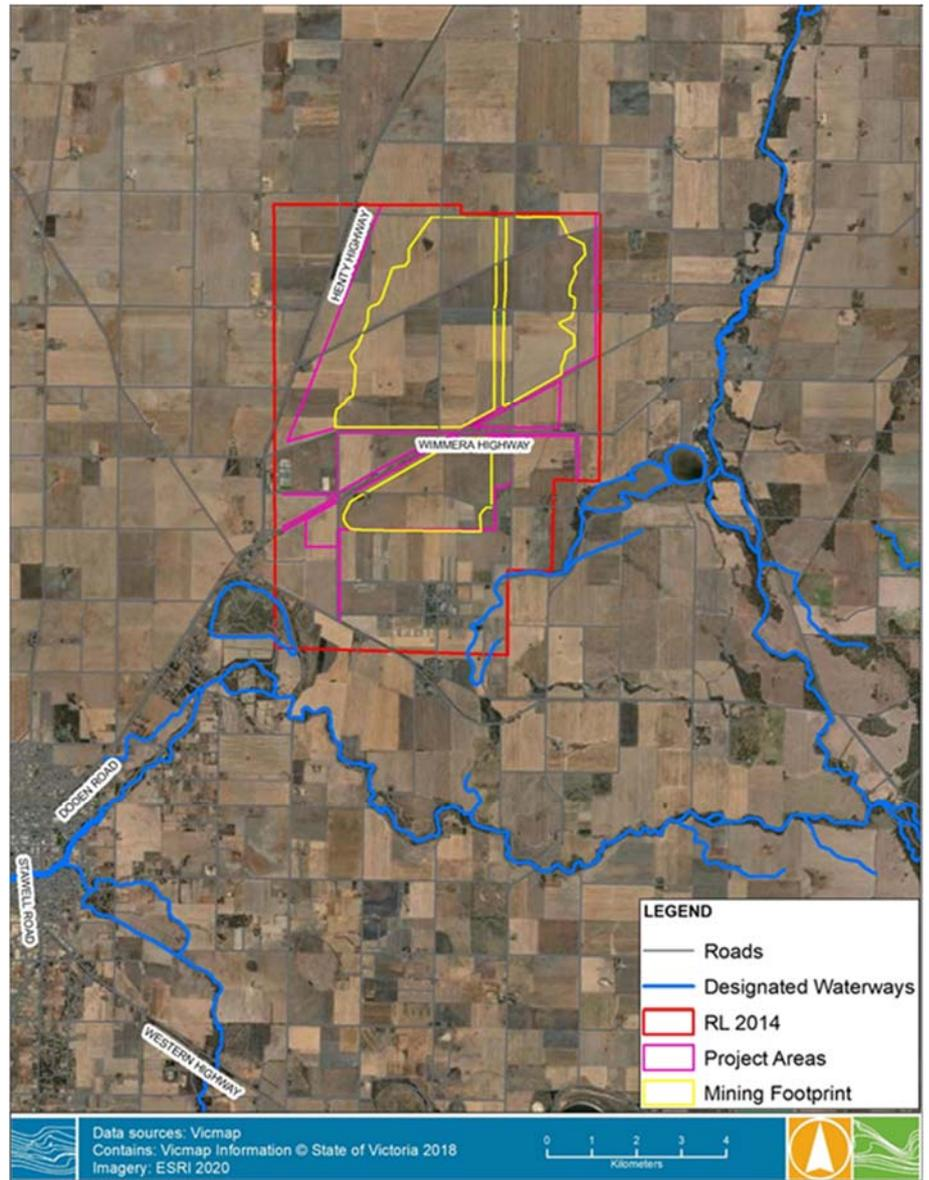

Figure 1: designated waterways in the Dooen Region
- ◆ Figure 1 below shows there are no designated waterways in the Avonbank Project area (shown in pink) or mining footprint (yellow).
- ◆ Only two small sections of Two Mile Creek and Dooen Swamp intersect with the south east corner and south west corner of the Retention Licence (RL) area (red) respectively. Neither the project areas or mining footprint impact these areas.